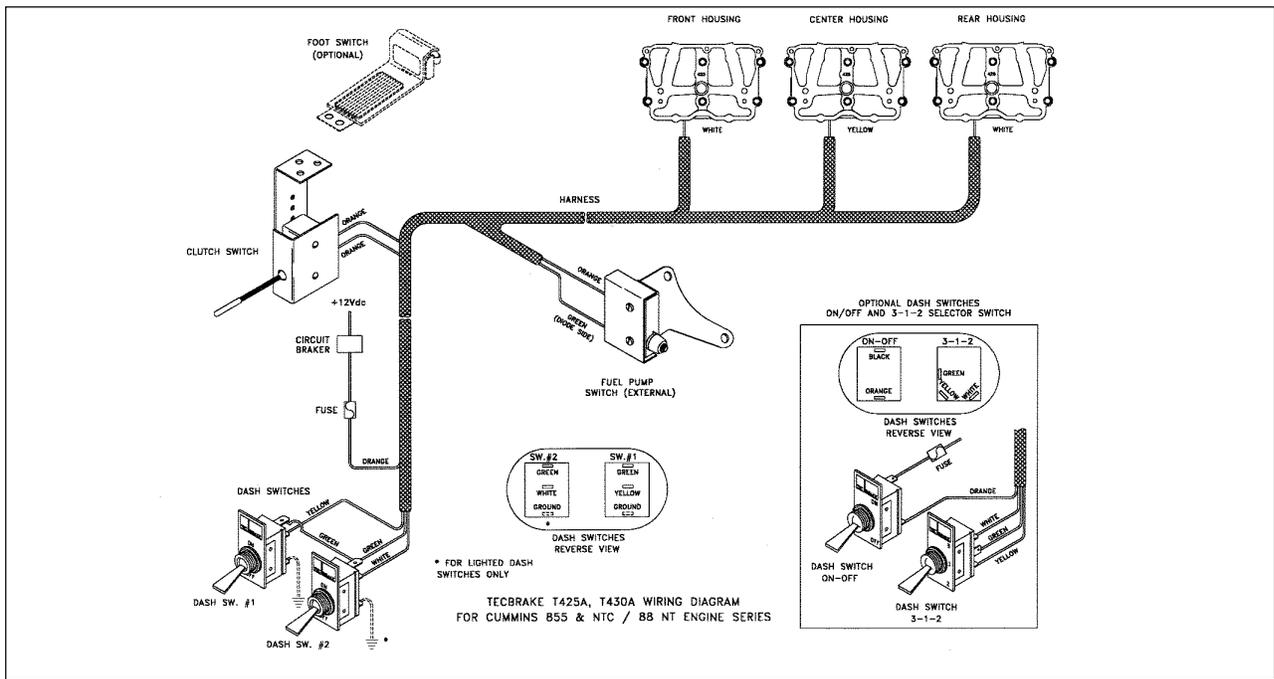

Figure 5-8
Installation of the electrical system involves the mounting of dash switches, a clutch switch, and a fuel pump switch. An optional foot switch may be installed in place of the clutch switch. Wiring harnesses are provided in the kit to complete the installation. Refer to the wiring diagram Figure 5-8.
2. Install the remainder of the wiring following the instructions included with the universal wiring harness and wiring diagram shown in Figure 5-8.